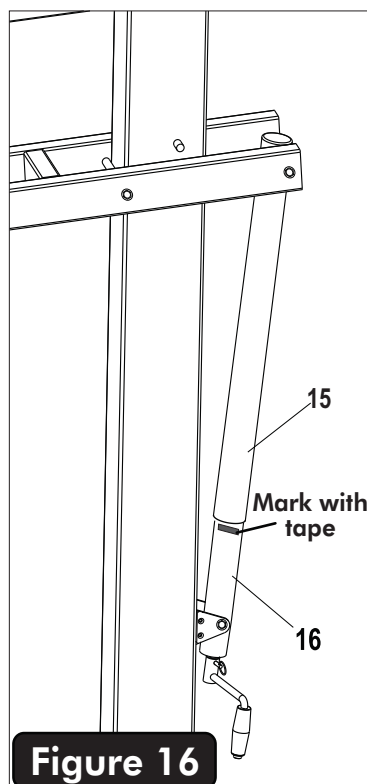

Figure 16
- 29.** Using tape - mark the **side** of the steel actuator (#16) just under the plastic actuator sleeve (#15) at this 10 ft rim height. See **Figure 16**.